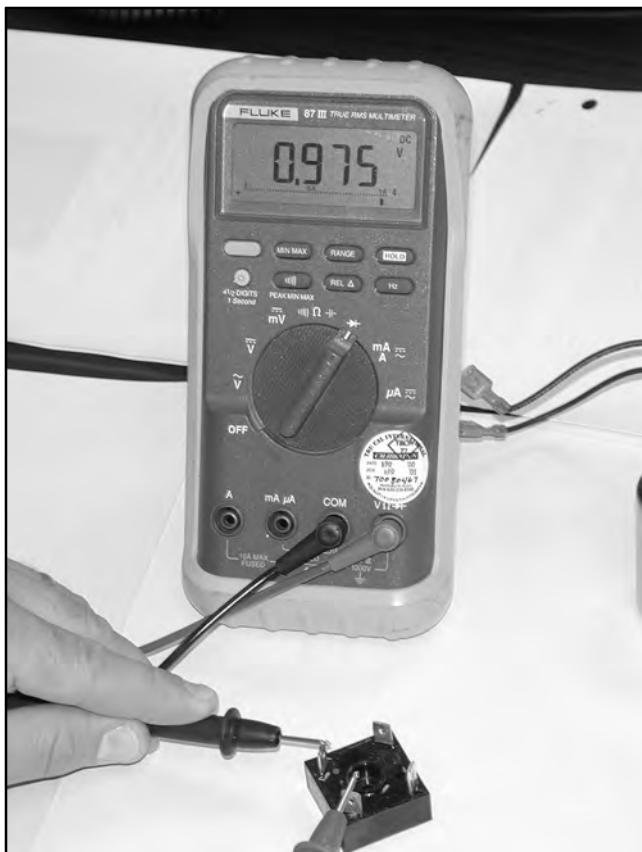

Figure 6-16 Checking Diode Operation of Rectifier
8. Check the diode operation of the rectifier. See Figure 6-16 and Section 3.5 for rectifier test instructions. If the rectifier is good, go to step 11. If the rectifier is bad, continue on.